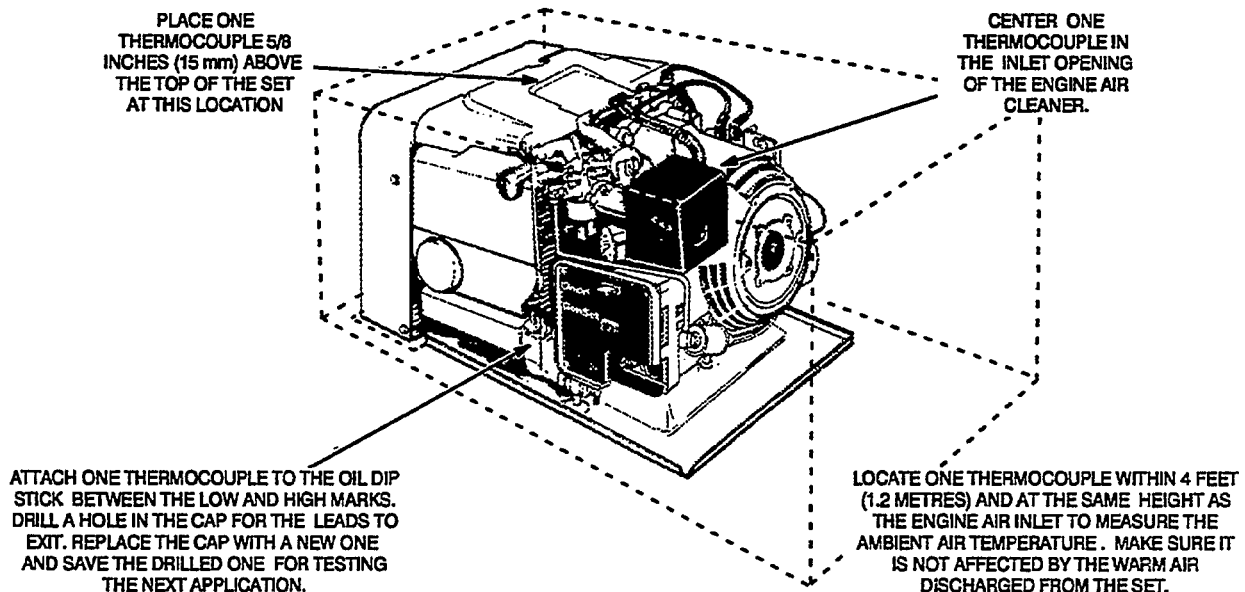

FIGURE 8-1. THERMOCOUPLE LOCATIONS FOR THE TEMPERATURE TEST
2. Use thermocouples not heavier than No. 24 AWG (0.21 mm²) to measure temperature. Locate them as indicated in Figure 8-1.